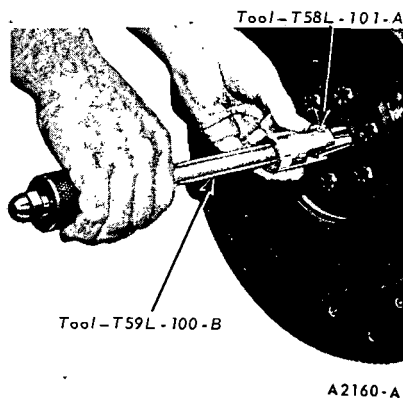

FIG. 50—Typical Clutch Pilot Bushing Removal
2. Using tools T59L-100-B and T58L-101-A, remove the pilot bushing (Fig. 50).